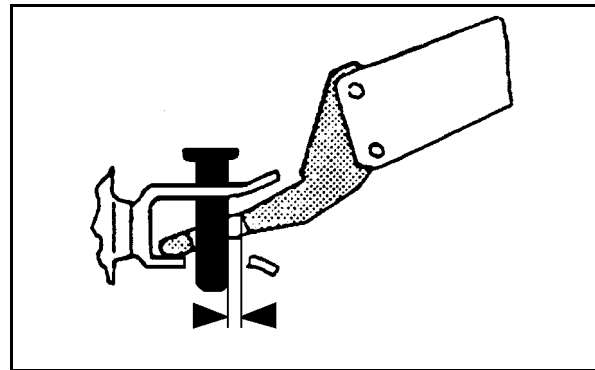

Fig. 91
- 7.5 Retighten the counter nuts (8).
9. Ensure that there is enough free space between the drawbar lug and the coupling bolt (Fig. 91). The coupling bolt must not chafe against the borehole of the drawbar lug.